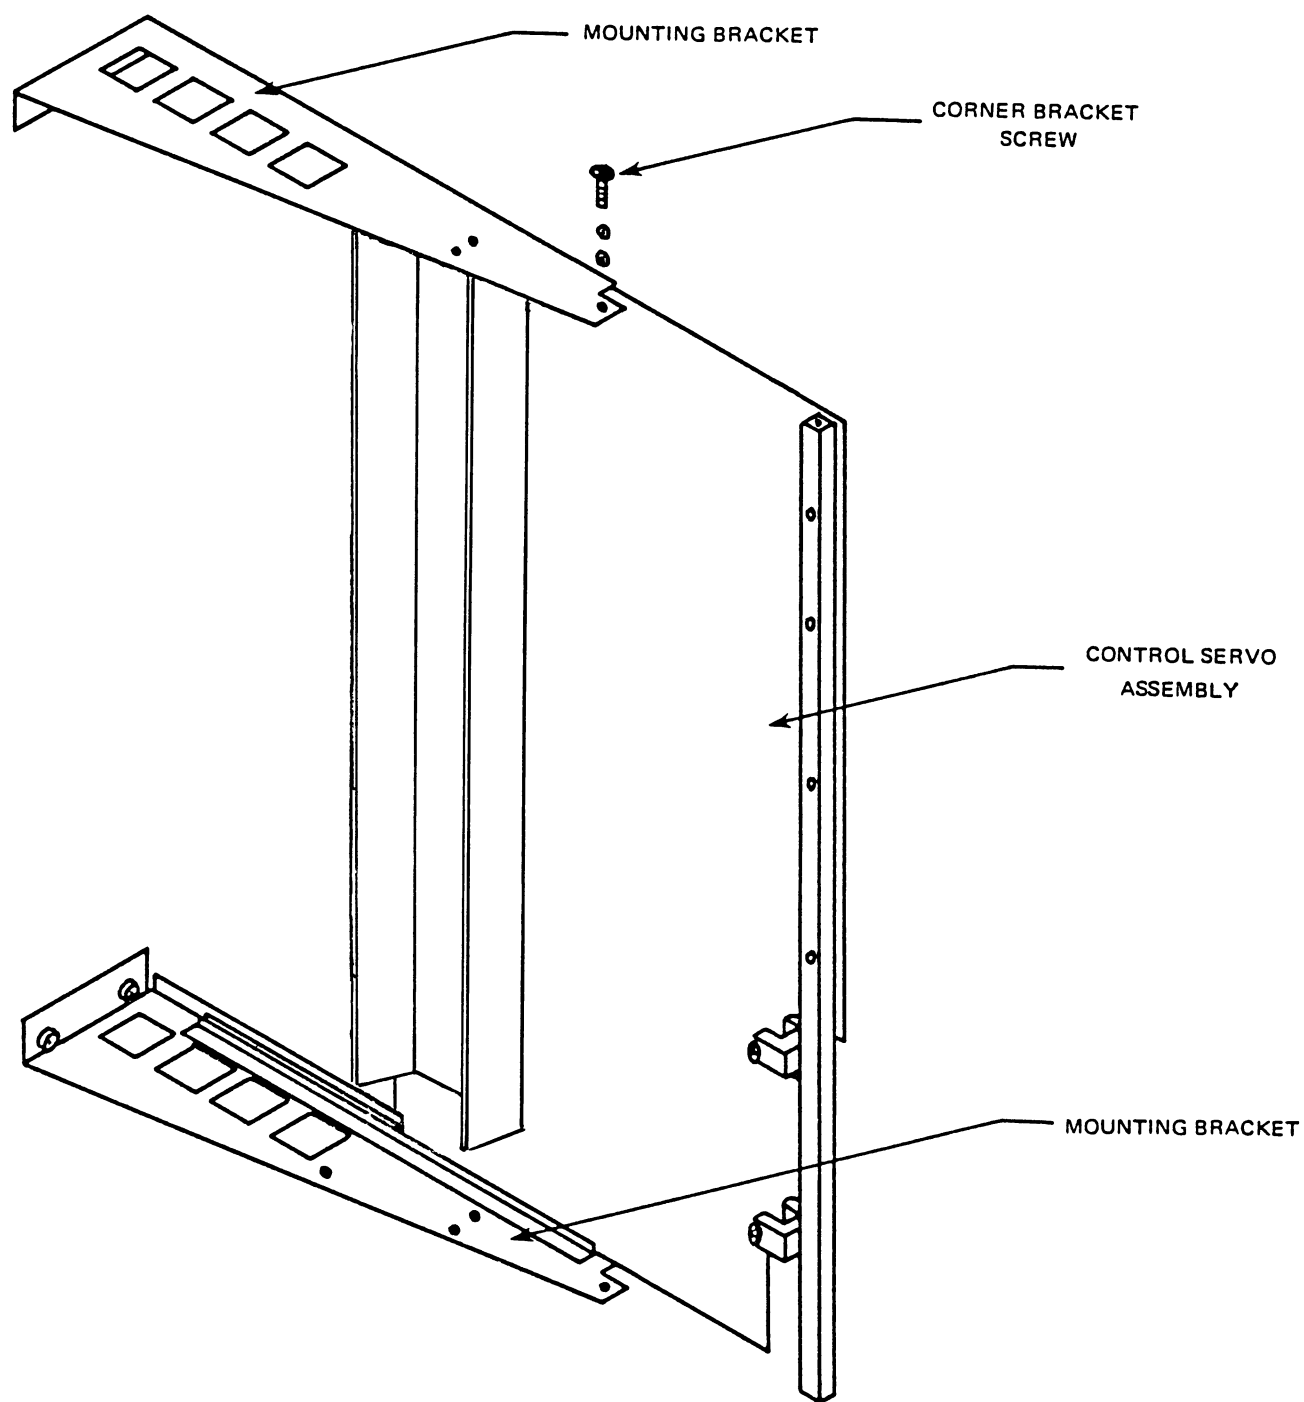

Figure 5-15. Control/Servo Board Removal
- b. Remove screws from corners of mounting bracket as shown in Figure 5-15.